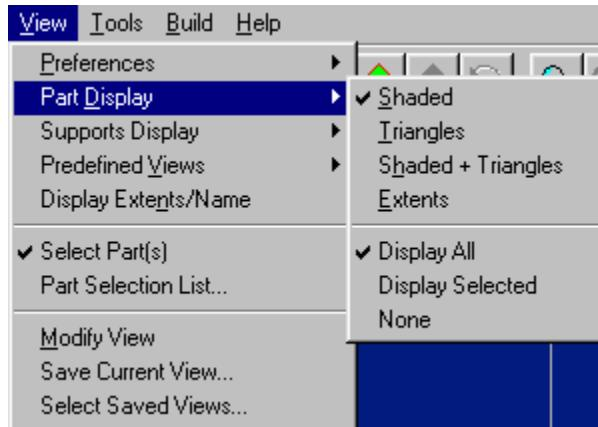

Figure 139. View Pull-down Menu (Part Display)
2. Click on the desired options in the pop-up menu to the right (**Figure 139**).